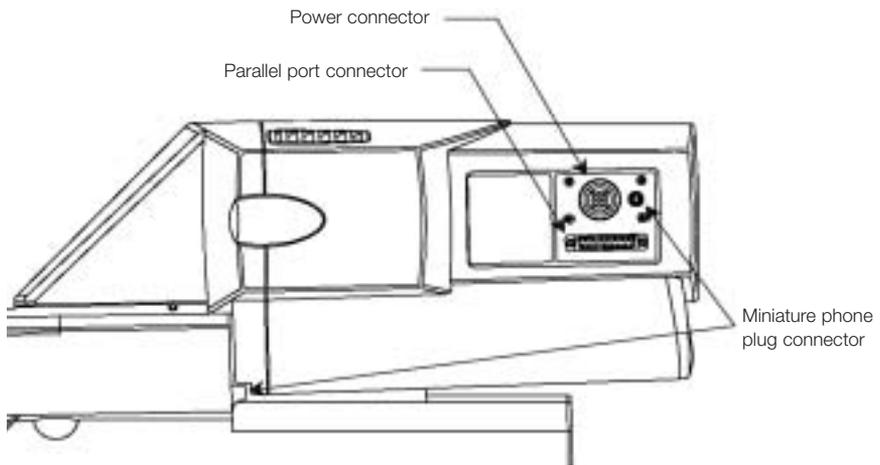
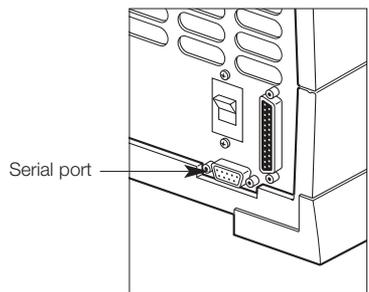

Fig. 7. Side view of MyiQ real-time detection system showing cable connections.
Fig. 8. Rear view of iCycler thermal cyclers showing serial connector.
Before attaching cables, turn off all power to the system; close the reaction module by sliding the lid forward and pressing the lid handle down. At the right side of the optical module are three connectors (Figure 7). A serial connector is at the rear of the iCycler thermal cyclers (Figure 8).
- Parallel port connector: Connect the 25-pin parallel cable provided between the optical module (Figure 7) and the computer. The system requires an IEEE 1284-compatible, 8-bit bidirectional or EPP type parallel port. Data are transferred to the computer via this cable
- Serial connector: Connect the serial cable to the rear of the iCycler chassis (Figure 8) and to the serial port on the computer. The MyiQ software directs the operation of the iCycler thermal cyclers via this cable